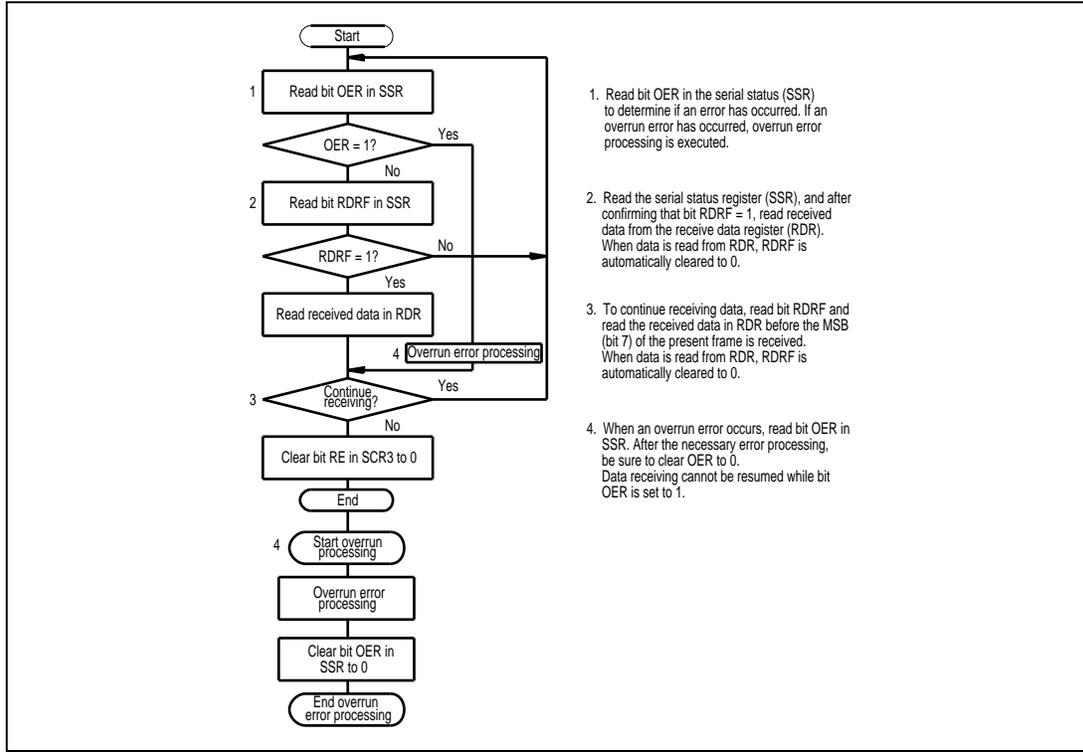

Figure 10-3-13 Typical Data Receiving Flow Chart in Synchronous Mode
4. When an overrun error occurs, read bit OER in SSR. After the necessary error processing, be sure to clear OER to 0. Data transmission and reception cannot take place while bit OER is set to 1. See figure 10-3-13 for overrun error processing.